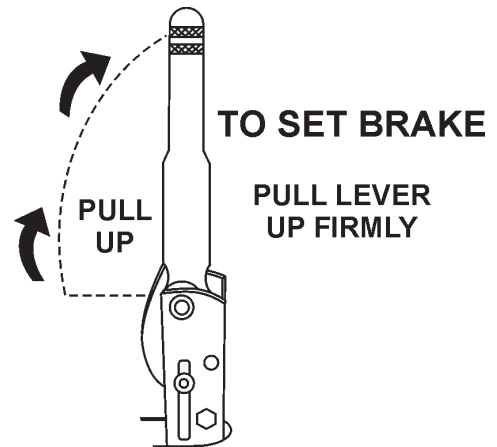

Figure 19. Parking Brake Lever (Set)
4. **Place** the parking brake lever (Figure 19) in the **set position**. This will lock the rear roller drum in place, and prevent the roller from moving. Whenever the operator's seat is vacated, place the transmission lever in neutral, and set the parking brake